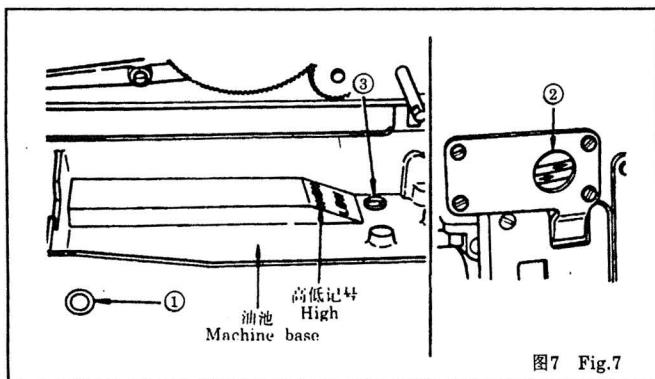
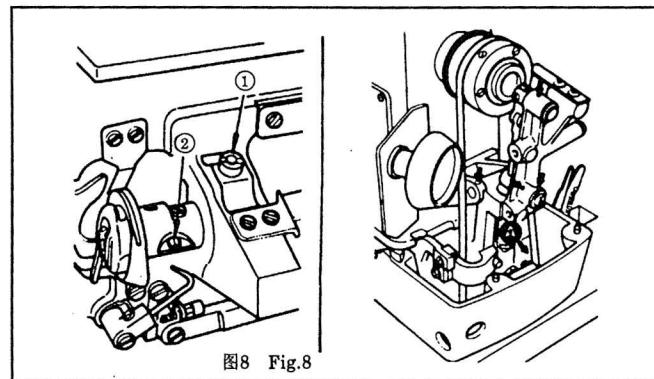

图7 Fig.7
图8 Fig.8
* 机器启动以前 图7
- 2) 当油面降至油标①的下刻线以下时应添加油。
- 3) 在机器处于正常的润滑状态时, 可以通过油窗②内的两根油管, 观察到油的流动。(低速运转时, 油的流动情况可以看得非常清楚)
* 油如被弄脏或有沉淀物后, 应松开螺钉③, 放掉废油, 换上新油。
* 旋梭的油量调节 图8
- 2) 使用新机器或者长期搁置未用的缝纫机时, 在箭头 ④ 所示部位加2—3滴润滑油。
* **Before starting the machine:** Fig.7
- 2) Supplement the oil when the oil level has lowered below the bottom line of oil gauge ①.
- 3) When the machine has been properly lubricated, the oil is seen to run through the pipe from oil sight window ②. (Low speed operation permits easier observation of the lubricating oil.)
* **Adjusting the lubrication for the sewing hook** Fig.8